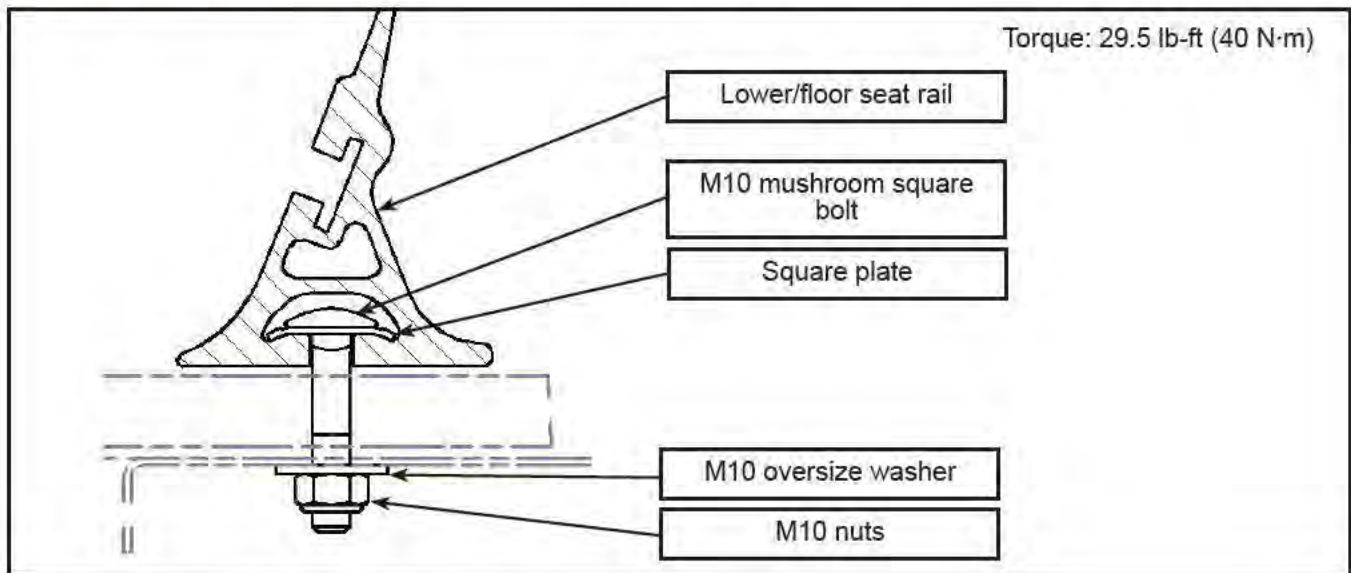

Figure 6 - Lower/Floor Seat Rail
- Torque the nuts to the torque value show in Figure 6 and apply torque seal on nuts.